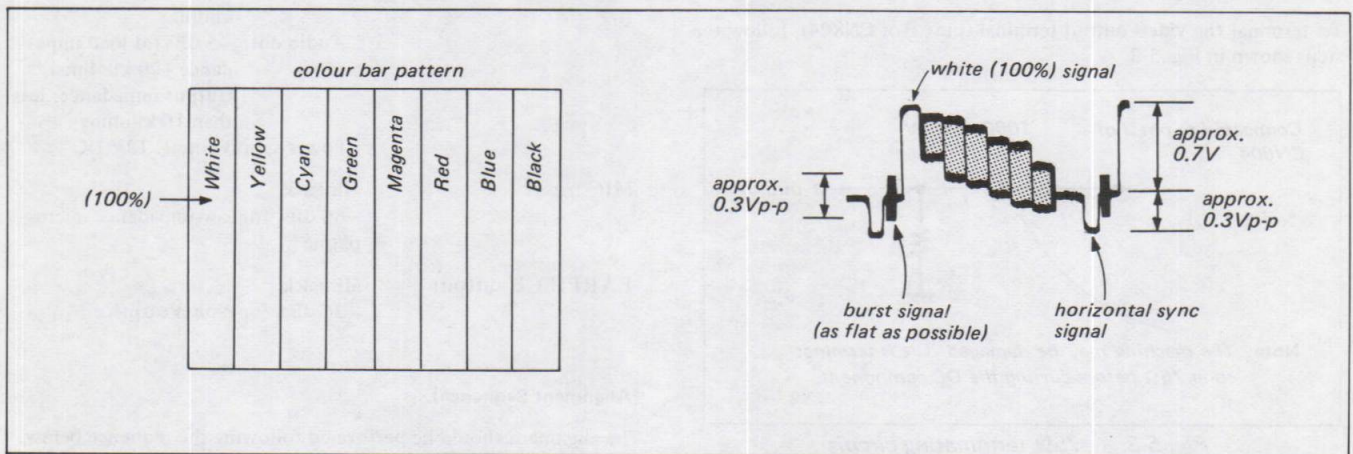

Fig. 5-1. Colour-bar signal of pattern generator
In this alignment, video signals obtained from the pattern generator or the timer tuner unit will be used as alignment signals. Therefore, the video output signals should be within the specifications. Verify video signals by connecting an oscilloscope to pin 1 of CN804 NOTE i on the MA-3 board, or to pin ②③ of CN802 NOTE ii. Check that the video signals are flat when the amplitude of the horizontal sync signal is about 0.3V, the amplitude of the video portion is about 0.7V, and the amplitude of the burst signal is about 0.3V. The video signal (colour-bar signal) used in this alignment is shown in Fig. 5-1.